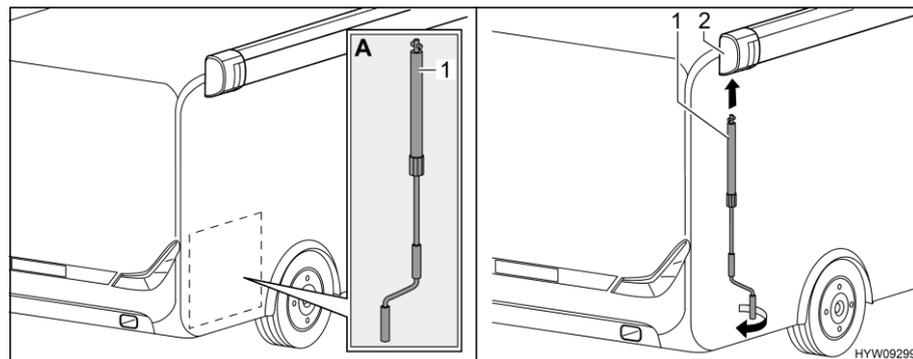

Fig. 25 Installing crank
- Take crank (Fig. 25,1) out of the rear garage (Fig. 25,A).
- Insert crank into bayonet socket (Fig. 25,2) of the awning.